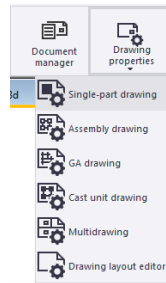

Figure 6-1. Single Part Drawings
- From the Drawings menu select **Drawing Properties – Single part drawing** (see Figure 6-1).